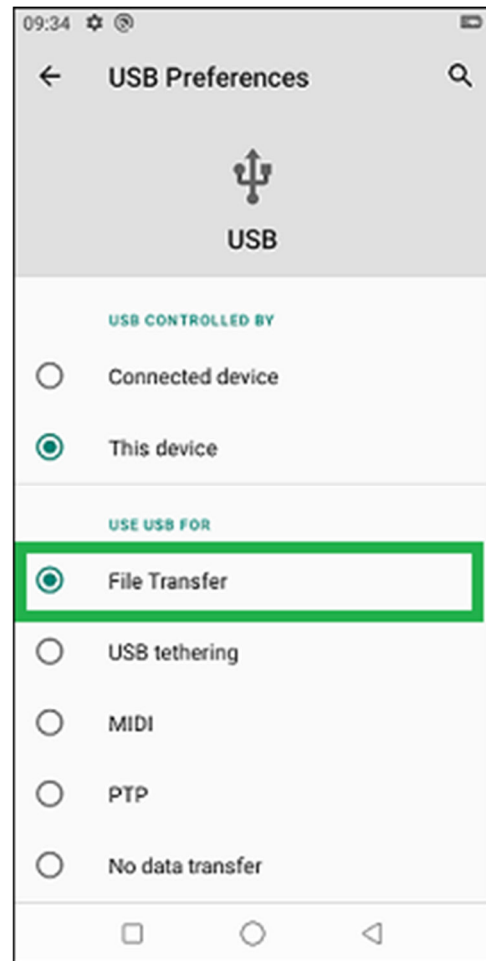

Figure 11 – USB connection settings
5. Click on the “File Transfer” item (Figure 11),